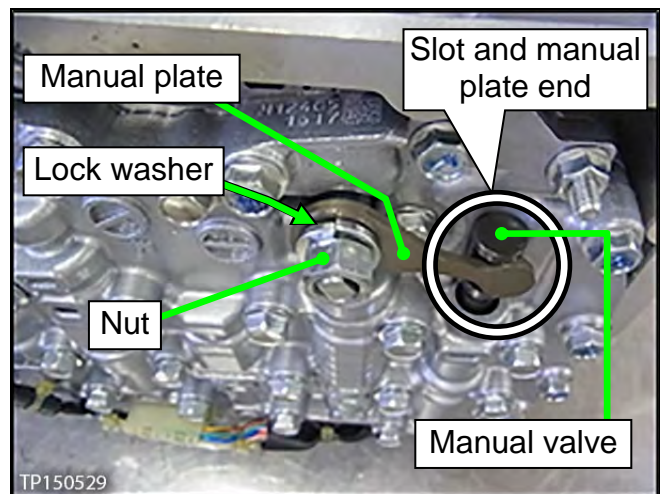

Figure 87
8. Install the manual plate, lock washer, and nut (see Figure 87).